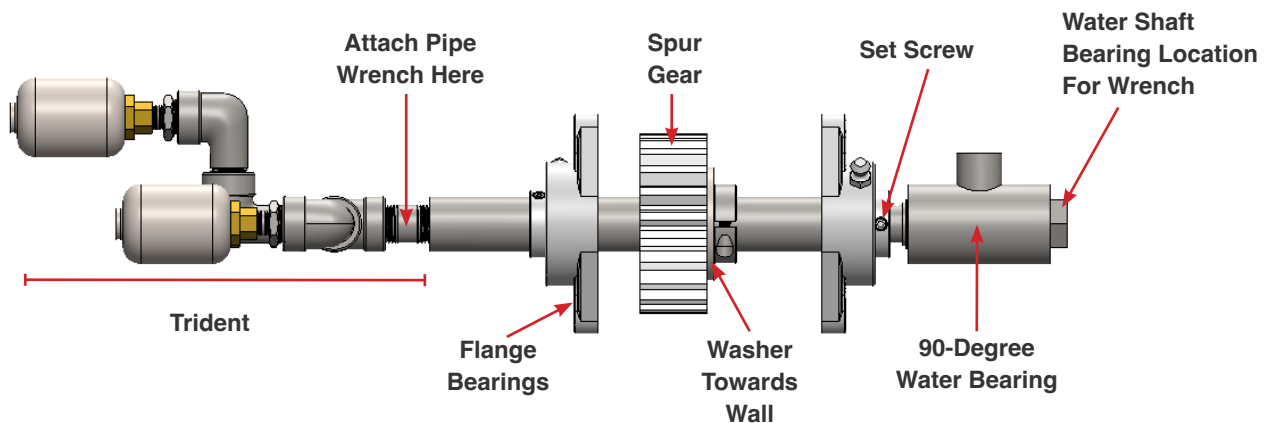

Fig. 7.2.2 - 2 - Water shaft assembly
8. Hold the trident end of the water shaft (ideally pipe wrench on the pipe nipple) and unthread the water shaft from the 90-degree water bearing on the wall side of the unit (Fig. 7.2.2 - 2).